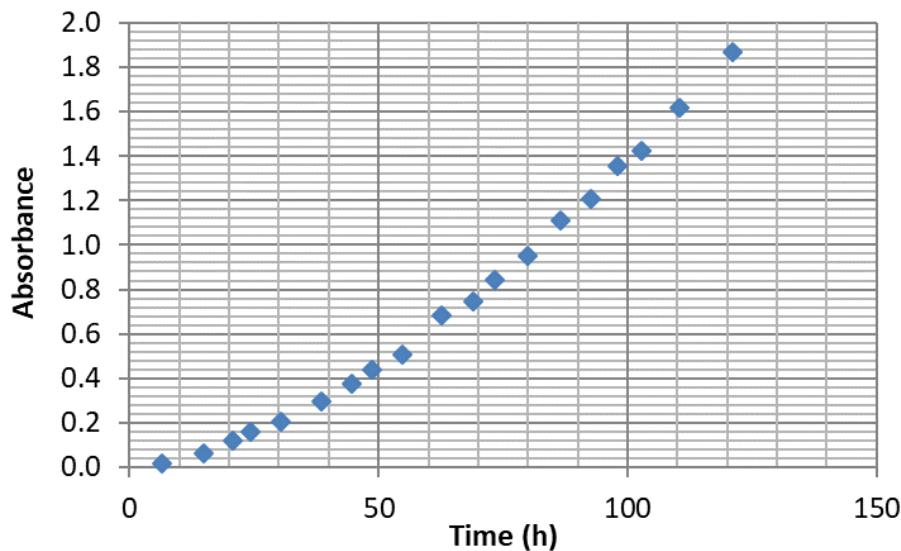

Figure 2: A_{470} (absorbance at 470 nm) as a function of time for the fructose - glycine reaction
A second experiment (B) was carried out by adding $n_{Fru,B,0} = 1$ mol of fructose and $n_{Gly,B,0} = 0.5$ mol of glycine without sodium metabisulphite to a 1 L sodium acetate/acetic acid buffer. A magnetic stirrer was used all along the experiment. Every 6 hours, the absorbance of an aliquot of 1 mL was directly measured at 470 nm in a cell of $l = 1$ cm. The obtained data is shown in figure 2. Given the steps (1) and (2), the concentration of the melanoidin product $[M]$ can be written as:
8. **Determine** graphically the value of $\frac{dA_{470}}{dt} \Big|_{t=80\text{h}}$ derivative of A₄₇₀ absorbance at 470 nm at t = 80 h based on figure 2.